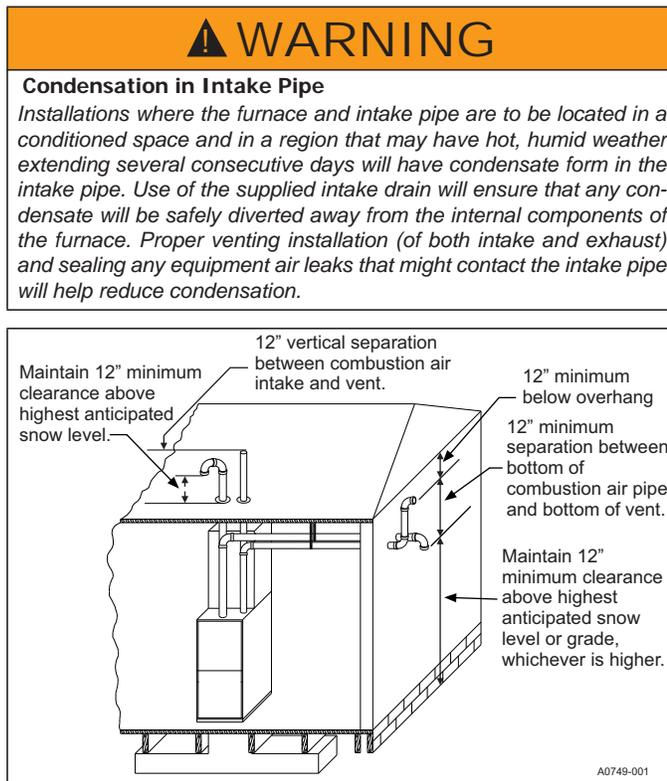
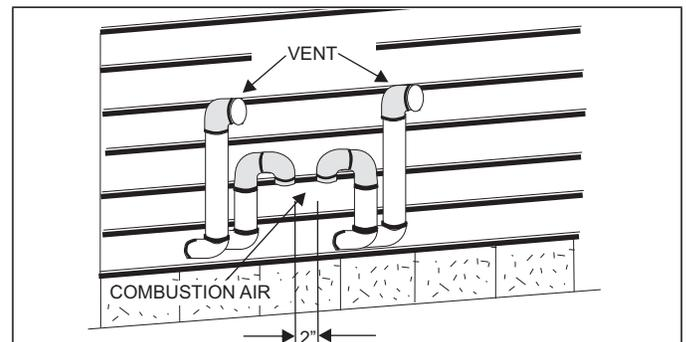

FIGURE 23: Termination Configuration - 2 Pipe
FIGURE 25: Double Horizontal Combustion Air Intake and Vent Termination
7. Direct vent systems must be installed so the vent and the combustion air pipes terminate in the same atmospheric zone. Refer to Figures 23 or 24.
The combustion air side of the two-pipe configuration shown in Figures 23 and 24 can be installed so the combustion air pipe terminates as described in outdoor combustion air or ventilated combustion air sections in these instructions. Follow the instructions for outdoor combustion air or ventilated combustion air and the instructions for installing the vent system with the vent terminating as shown in Figures 25 or 26. The two-pipe system must have a separate combustion air pipe and a separate vent pipe for each furnace. Under NO circumstances can the two combustion air or vent pipes be tied together. The combustion air and vent pipes must terminate in the same atmospheric zone.